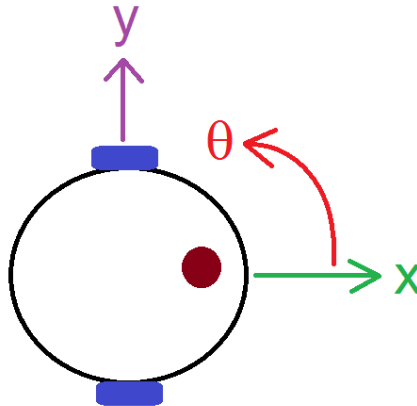

Figure 10: Robot Relative Reference Frame
5. The reference frame for the robot is shown in Figure 10, where the robot's start position is (x,y,θ) $(0,0,0)$. Note that the z axis is coming up out of the robot centered between the two wheels. The x axis is straight ahead and the y-axis is to the left. Positive turns are counterclockwise and negative turns are clockwise. Turn on the GREEN LED when the robot is executing the Go To Angle behavior.